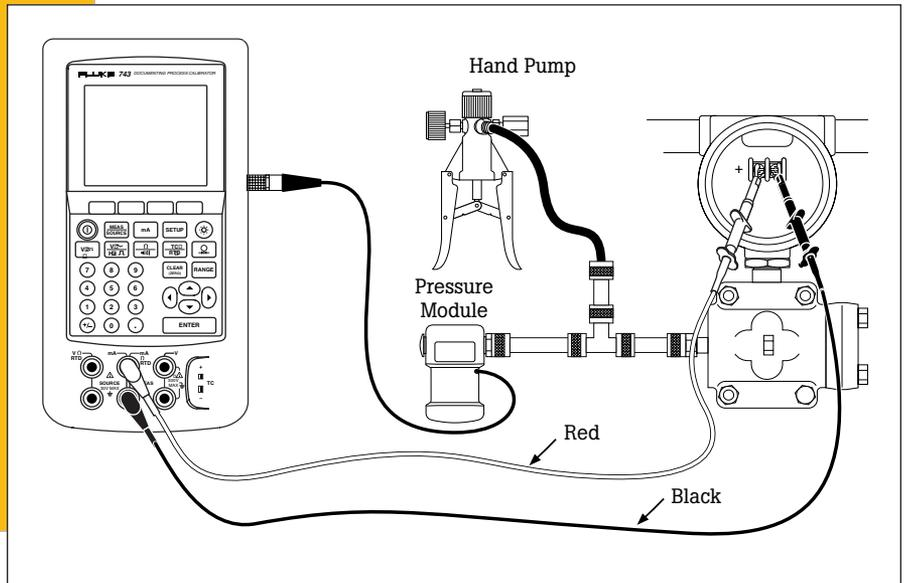

Figure 20
1. Connect the pressure module to the DPC. Connect the input of the P to I and the output of a pressure hand pump to the input of the pressure module using a "T" connector (Figure 20). If you are using a differential pressure module, ensure (for this example) it is a 15 PSI module and connect to input labeled "H."
2. Connect from the center 2 banana type connections of the DPC to the input of the P to I where loop power is supplied (Figure 20).